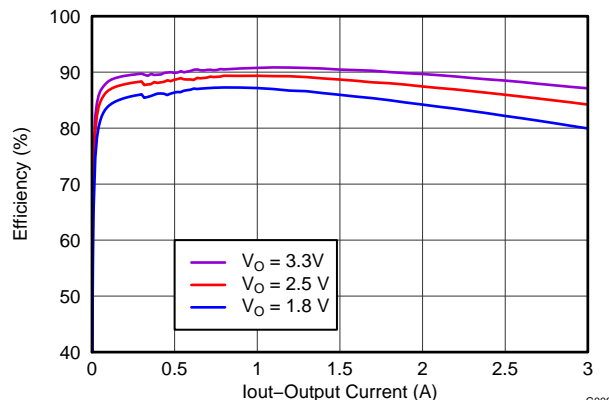
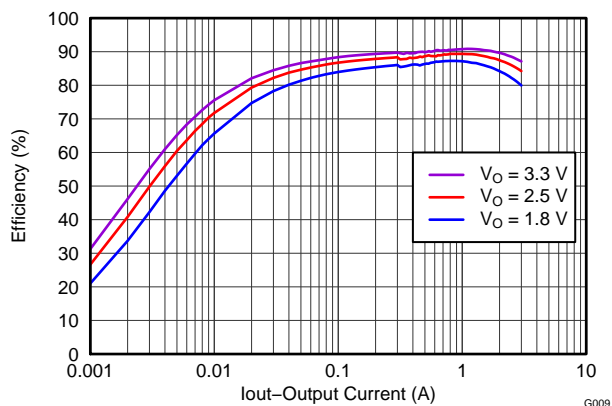

Figure 8. EFFICIENCY vs OUTPUT CURRENT
Figure 9. LIGHT LOAD EFFICIENCY vs OUTPUT CURRENT
- Changed Figure 8 and Figure 9 8